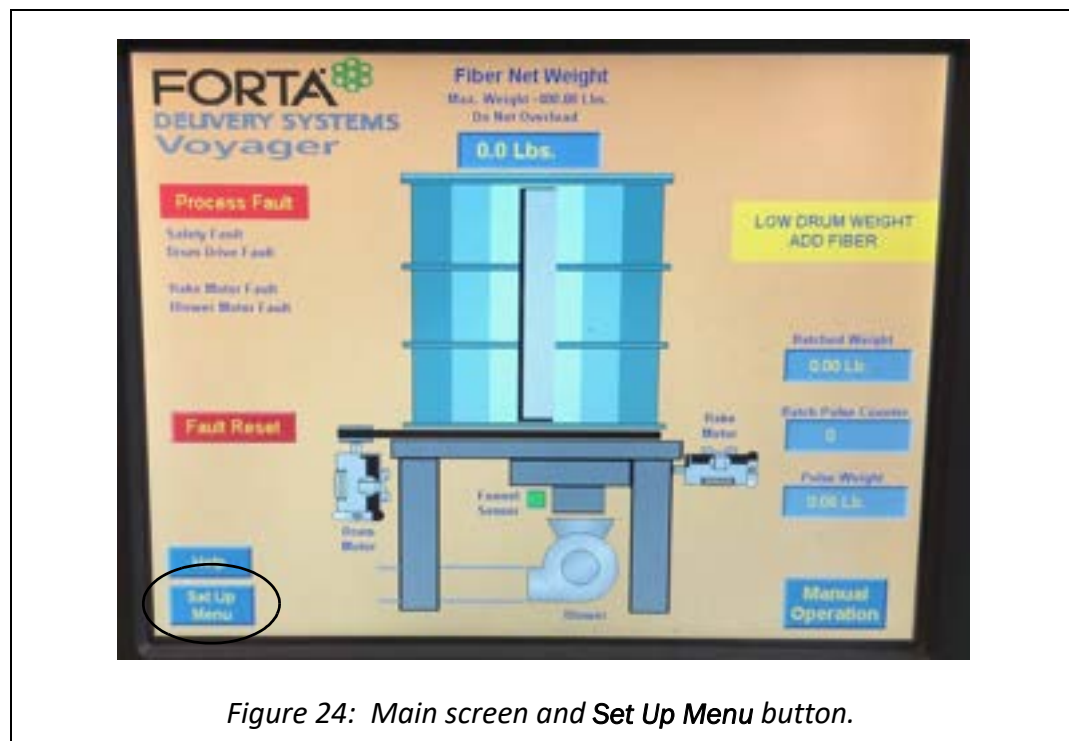

Figure 24: Main screen and Set Up Menu button.
- a. From the main display screen, touch the **Set Up Menu** button on the touch screen (see Figure 24).